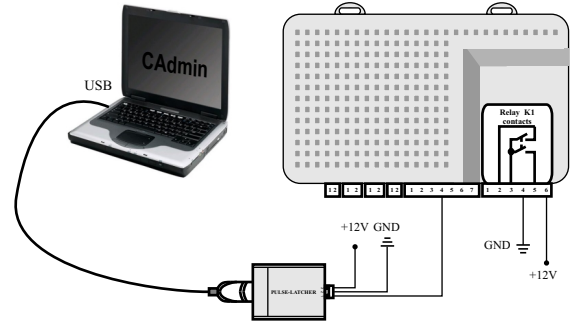

Fig. 8. 'GN7C' connected to the computer using PULSE-LATCHER.
- connect an alarm system to the computer by using the PULSE-LATCHER device as seen in Fig. 8;